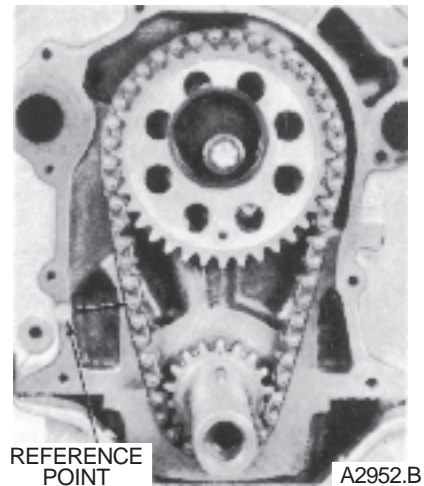

Fig. 14 Checking Timing Chain Deflection-Typical
2. Establish a reference point on the block and measure from this point to the chain (Fig. 14).